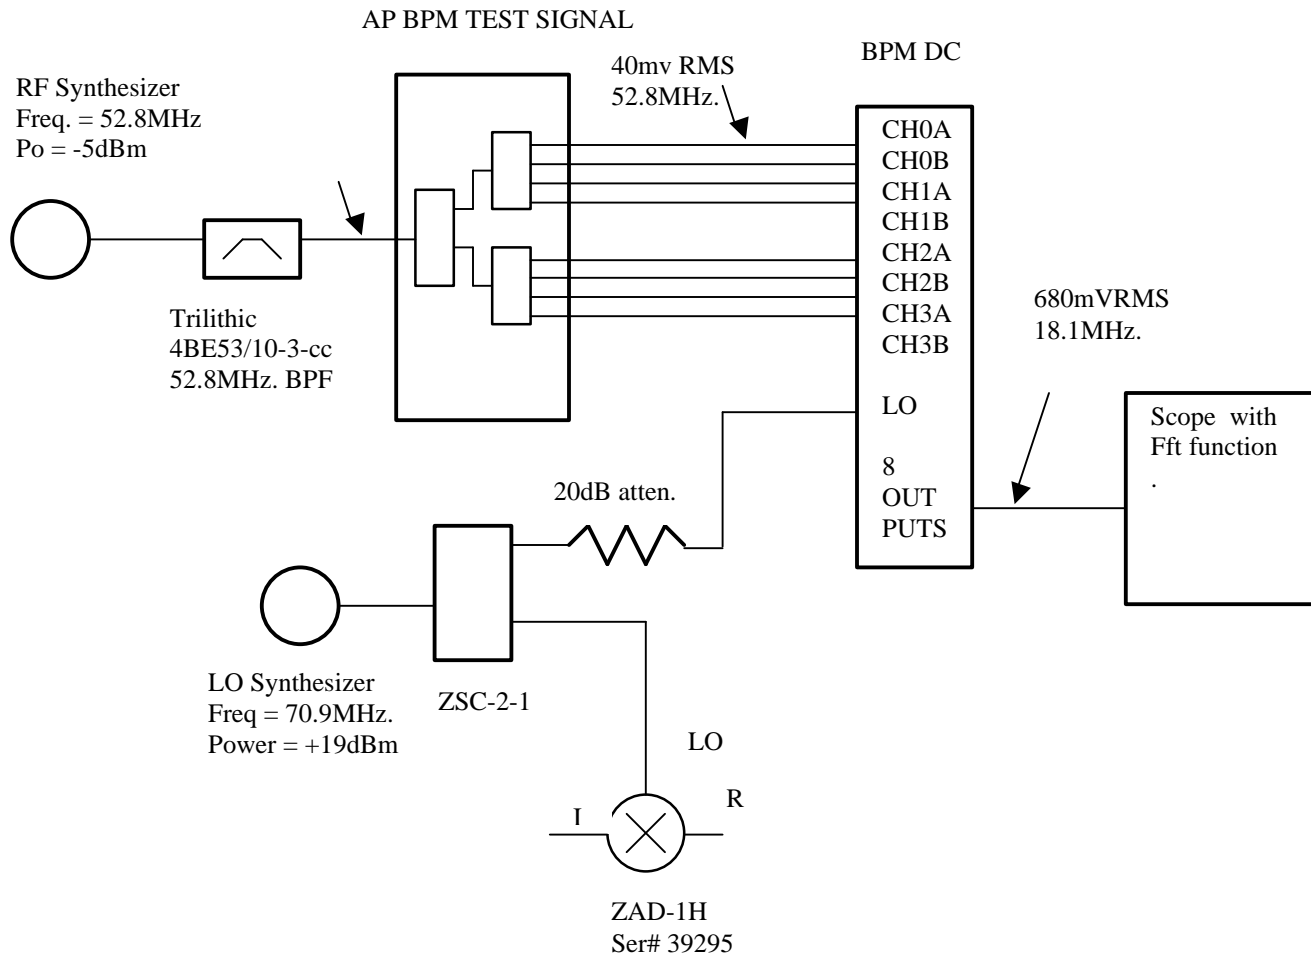

Figure 7
- 11.) Connect cables as shown in Figure 7.